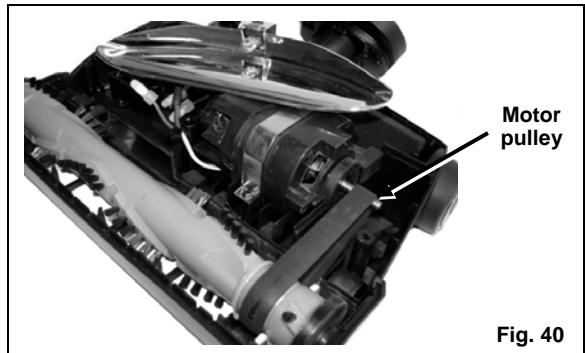

Fig. 40
8. If the belt is broken, remove all broken pieces . If it is just stretched remove it from the motor pulley. (Fig. 40)